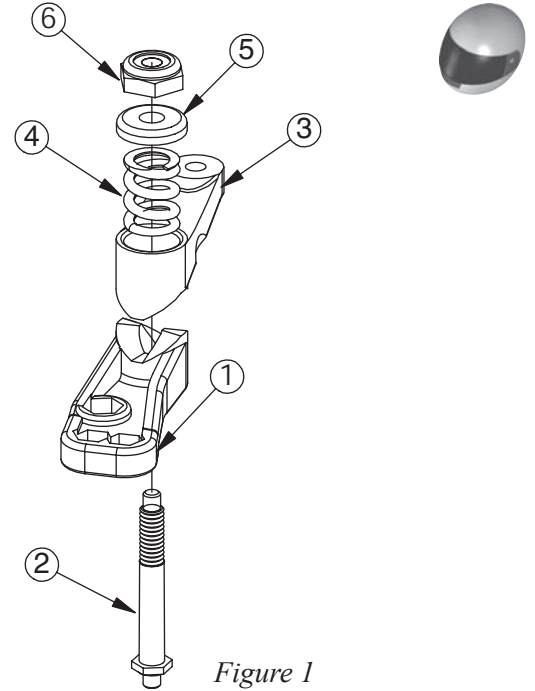

Figure 1
⑥
- ❑ 1. Place the Servo Saver Bottom (1) over the Servo Saver Post (2) and slide the Servo Saver Bottom all the way against the hex at the opposite end. Be sure that the hex on the Servo Saver Post is inserted into the hex in the Servo Saver Bottom.
- ❑ 2. Slide the Servo Saver Top (3) down over the Servo Saver Post so that the 'V' area of the Servo Saver Top rests in the 'V' area of the Servo Saver Bottom. The arm on the Servo Saver Top and the arm on the Servo Saver Bottom should now point in opposite directions as shown in Figure 1.
- ❑ 3. Slide the Servo Saver Spring (4) over the Servo Saver Post and push it into the recessed area of the Servo Saver Top. Install the Servo Saver Spring Cap (5) and thread the 6-40 Locknut (6) onto the end of the Servo Saver Post.